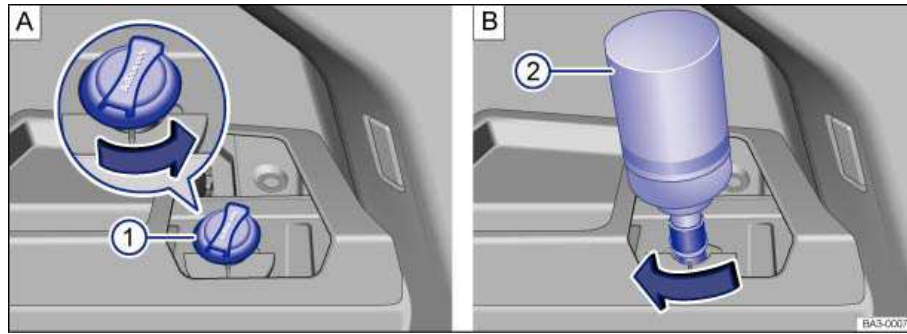

Fig. 180 AdBlue tank with filler neck cap 1 and refill bottle 2.
- Unscrew the tank filler neck cap ⇒ fig. 180 (1) counterclockwise and remove.